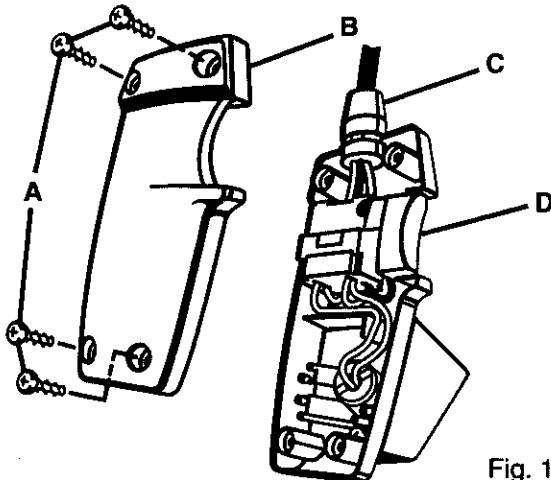

Fig. 15
See Figures 15 and 16.
- Remove screws (A) and handle cover (B). See Figure 15.
- Note the location of the molded bend relief (C) on the power handle cord. Also note all wiring in the handle and how each lead is connected to the switch. Connections and wiring position must be identical when installing new switch. See Figure 15.